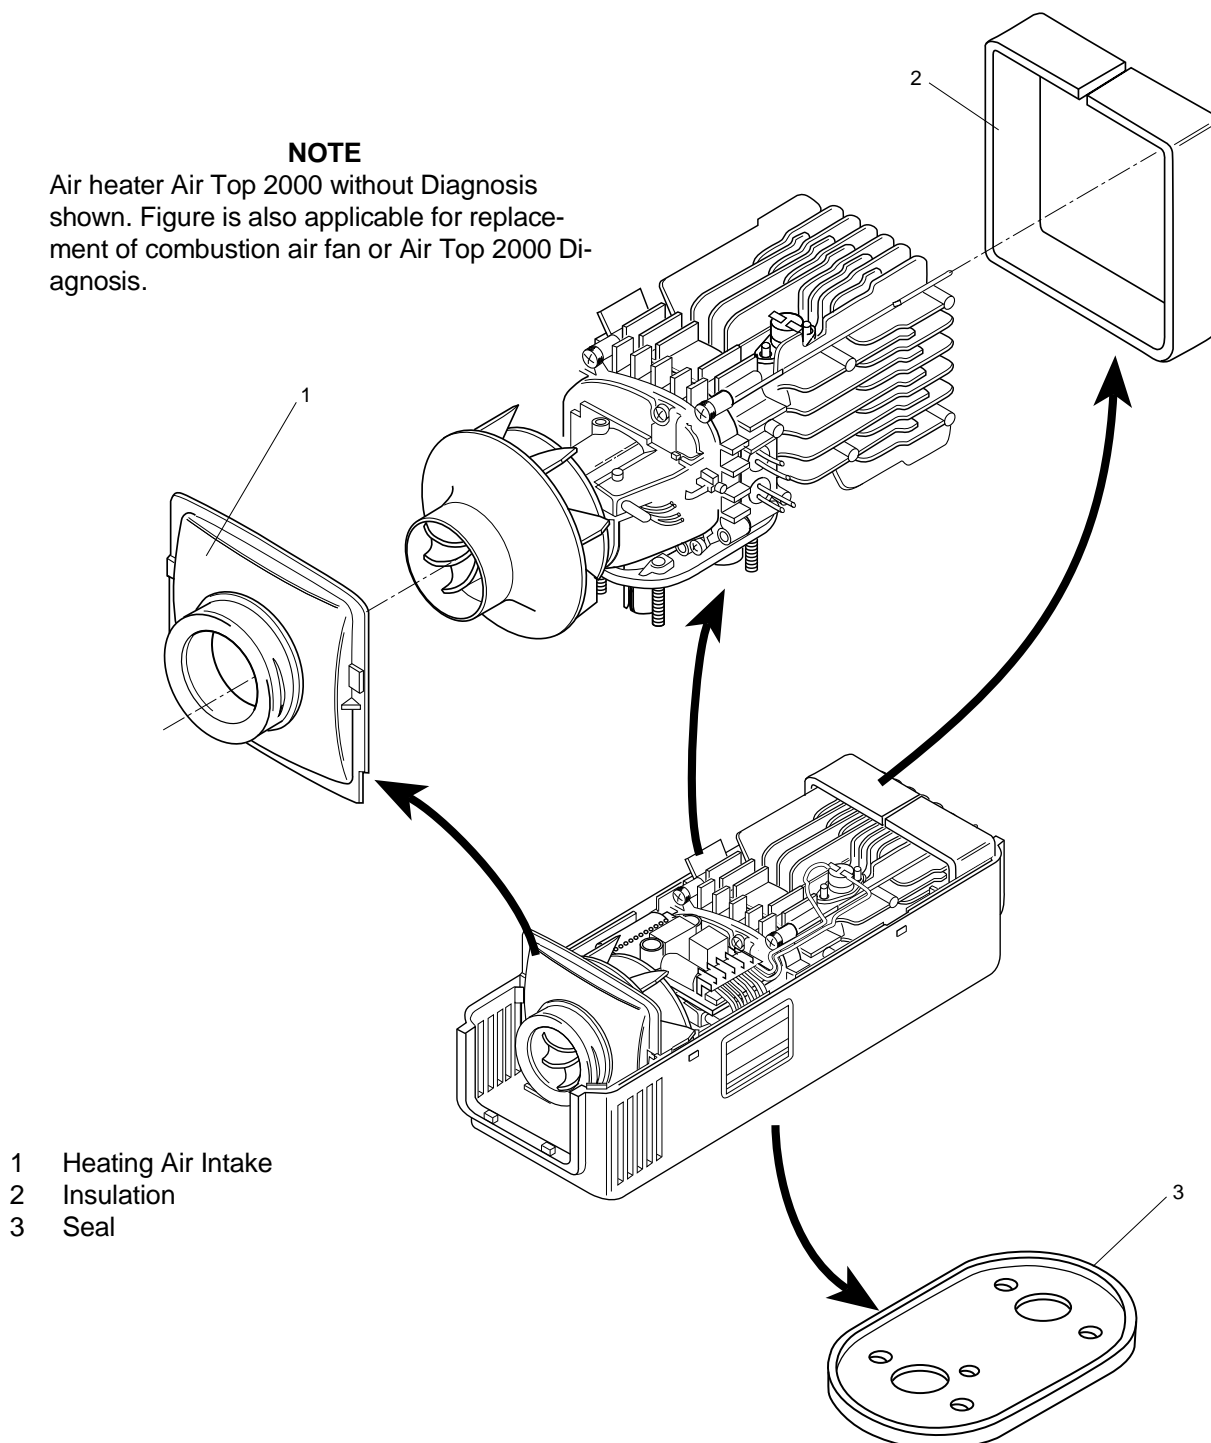

Fig. 902 Replacement of Combustion Air Fan (Removal)
3. Remove seal (3 Fig. 902) from lower housing shell and discard.
5. Remove heating air intake (1, Fig. 902) and remove insulation (2).
3. Bring combustion air fan into assembly position and mount using screws (1).
4. Torque screws (1) to 4 Nm.
5. Place air heater with heating air intake (1, Fig. 902) and insulation (2) into lower housing shell and on side lock in position in housing.
6. Fit new seal (3) to lower housing shell.